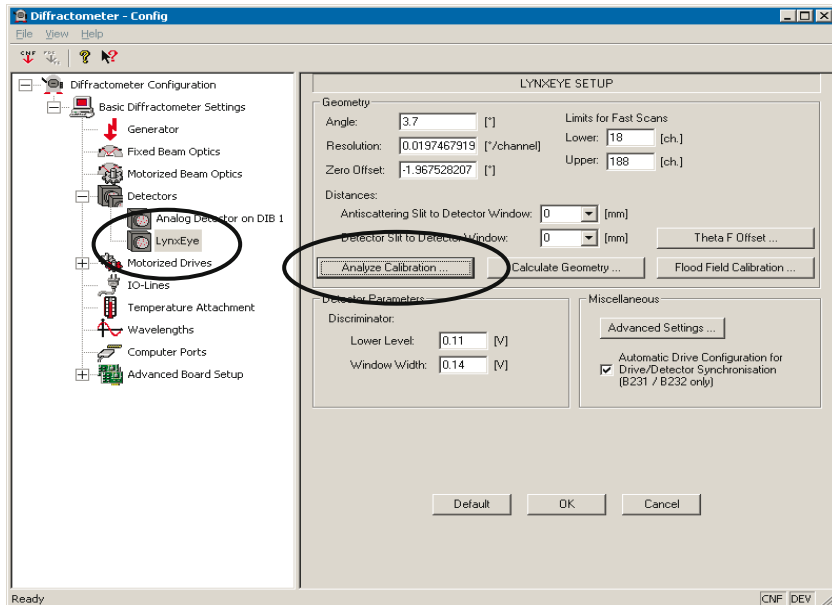

Figure 8.3 Analyze the calibration
1. After creating Calib.raw, select **Analyze Calibration** in the Configuration program under the LynxEye menu (see Figure 8.3).